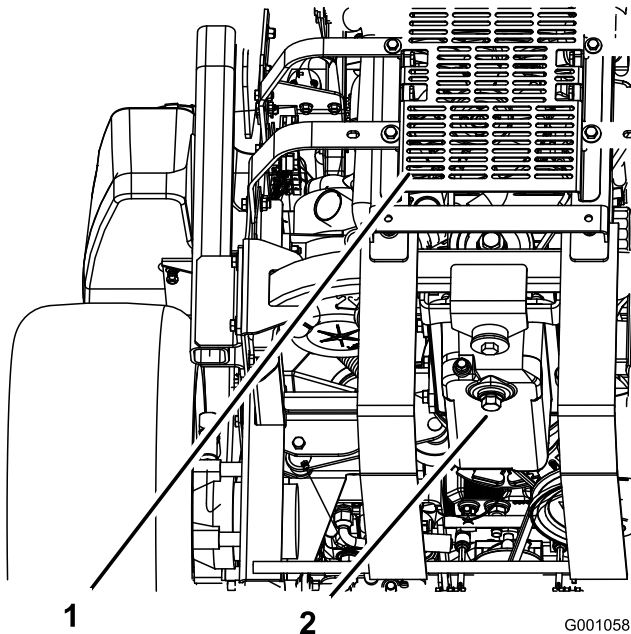

Figure 41
5. Place a pan below the oil drain. Remove the drain plug and let the oil drain completely (Figure 41).